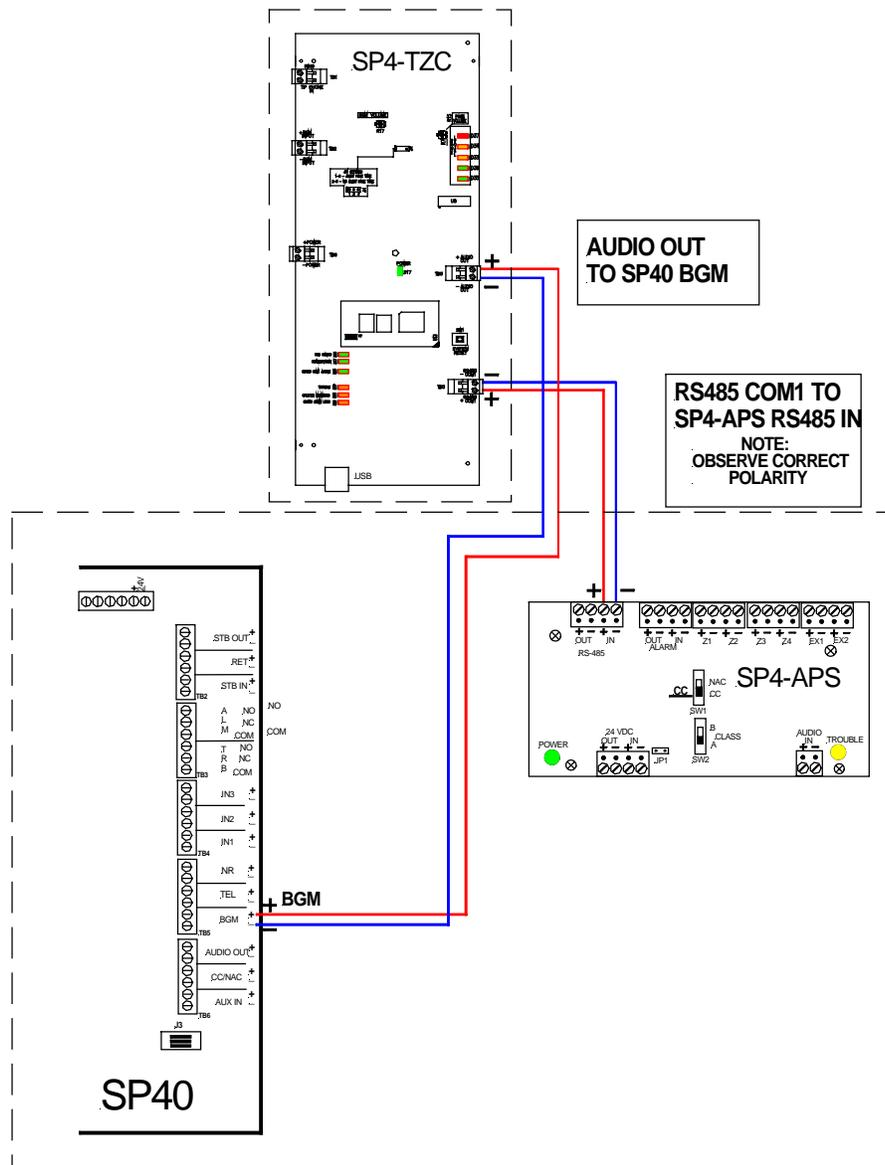

Figure 9
STEP 8 Connect the AUDIO OUT from the SP4-TZC to the BGM terminals on the SP40. See Figure 9.
Connect the RS485 Digital Control Port terminals from the SP4-TZC to the RS485 IN terminals on the SP4-APS splitter. See Figure 9. Observe correct polarity.